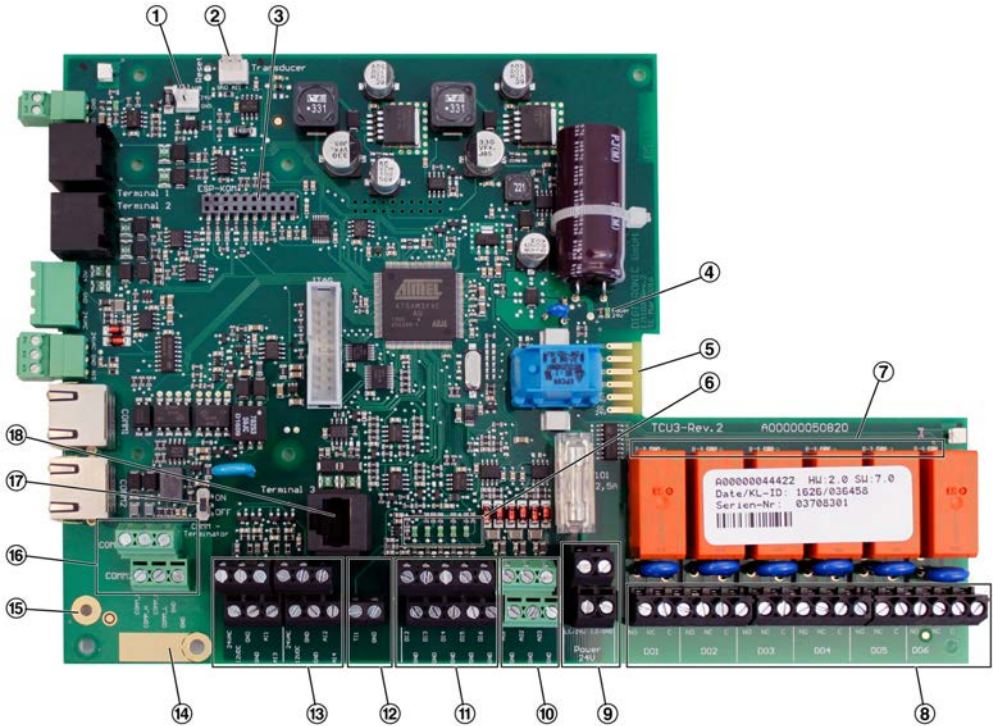

Fig. 4: Interfaces and signal lamps on the PCB
Valve (1) - Connection to 'Valve' (Fig. 4/1)
Diaphragm pressure transducer (2) - Connection to 'Transducer' (Fig. 4/2)